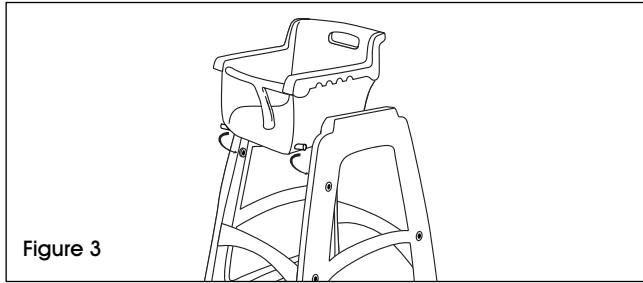

Figure 3
3. Connect the seat to the frame by inserting pegs into the top opening of legs. (See Figure 3)